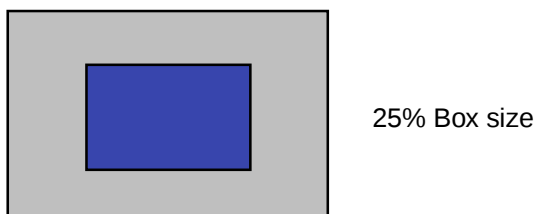
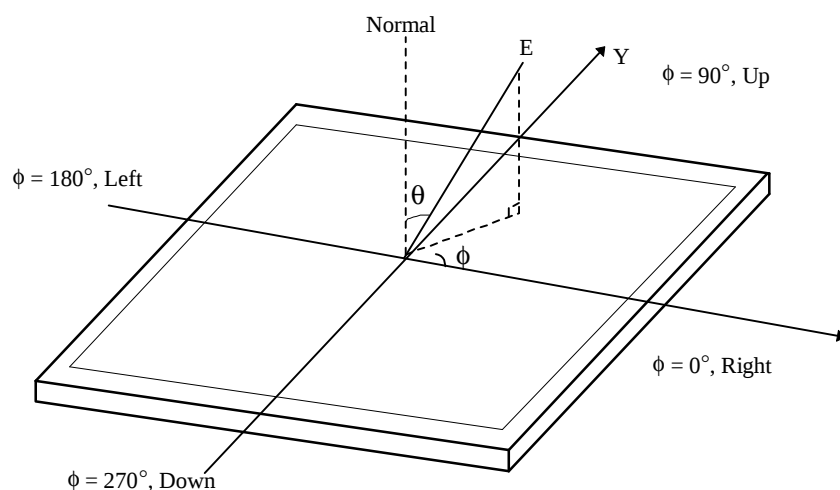

FIG. 3 Color Shift Test Pattern
FIG. 4 Viewing angle
5. Color shift is the angle at which the average color difference for all Macbeth is lower than 0.02. For more information see FIG 3 and FIG 4. **(By EZ Contrast)**
6. Viewing angle is the angle at which the contrast ratio is greater than 10. The angles are determined for the horizontal or x axis and the vertical or y axis with respect to the z axis which is normal to the LCD surface. For more information see FIG 4. **(By PR880)**